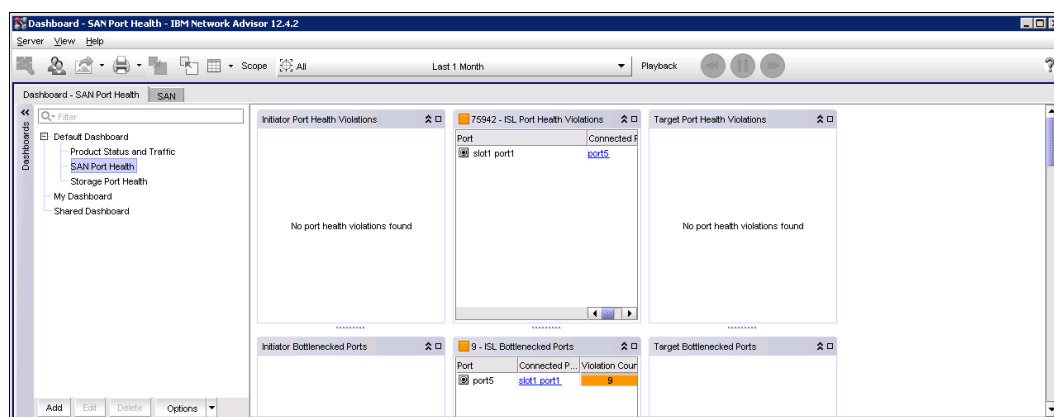

Figure 12-9 MAPS Dashboard with SAN Port Health selected
4. Click the + to expand the default dashboards available and select **SAN Port Health** (see Figure 12-9 on page 318).
Figure 12-9 shows MAPS Dashboard with SAN Port health selected.
4. Click the **+** to expand the default dashboards available and select **Product Status and Traffic** (see Figure 12-9 on page 318).
4. Click the **+** to expand the default dashboards that are available and select the **Product Status and Traffic** menu option (see Figure 12-9 on page 318).
4. Click the **+** icon to expand the default dashboards available and select **Product Status and Traffic** (see Figure 12-9 on page 318).